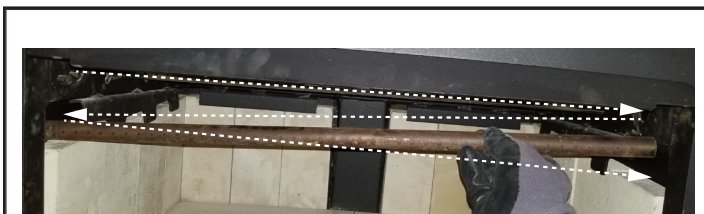

Figure 19 Front Air Tube Removal
- Remove the air tube by sliding it into the space to the right, followed by sliding the tube left and partially forward, and finally remove the tube by sliding to the right and out of the firebox. Overall this pattern looks like the letter Z. See Figure 19.